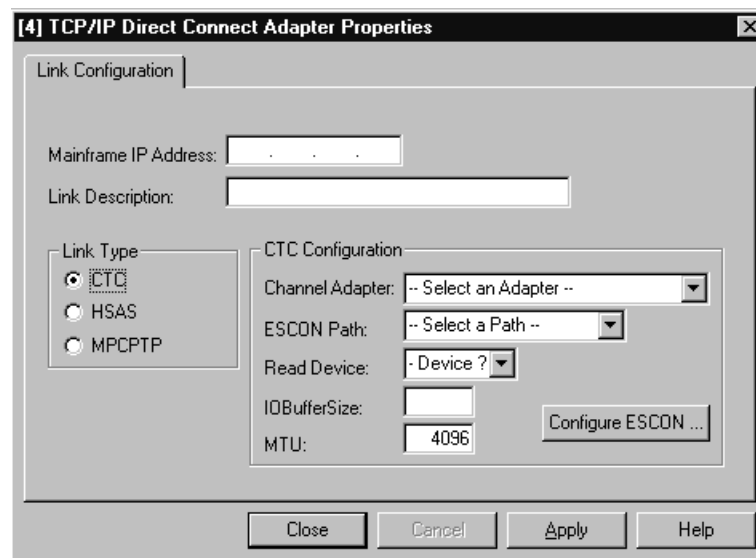

Figure 5-5. TCP/IP Direct Connect Properties
3. The TCP/IP Direct Connect Properties dialog will display (Figure 5-5).